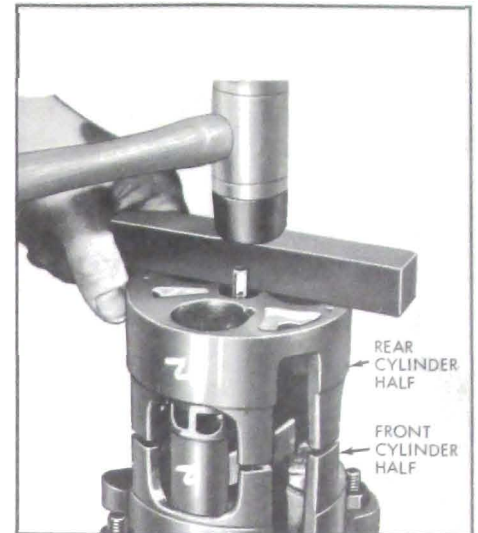

Figure 11-75—Assembling Rear Cylinder Half
11. Align rear cylinder half casting with bores, suction passage, discharge crossover holes, dowel pins, etc. Tap into place, using a wood block and mallet. See Figure 11-75.